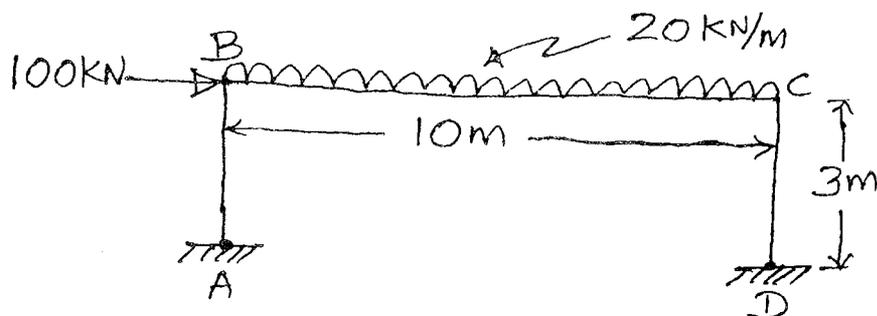

Fig. 1
15. (a) Determine the value of plastic moment for the frame shown in Figure 1. The plastic moment is uniform throughout.